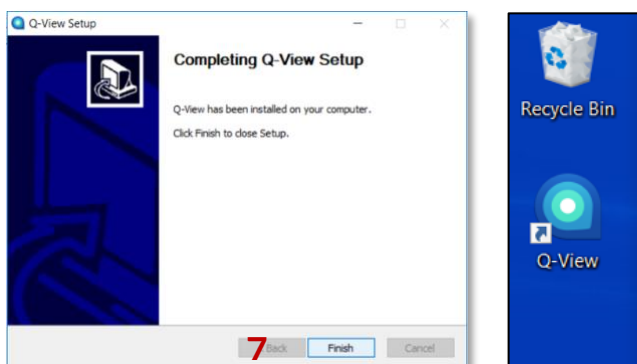

Figure 4. Windows Computer: Finish the Q-View Installation
7. Dismiss the wizard when complete, click **Finish**. See Figure 4. Windows Computer: Finish the Q-View Installation.